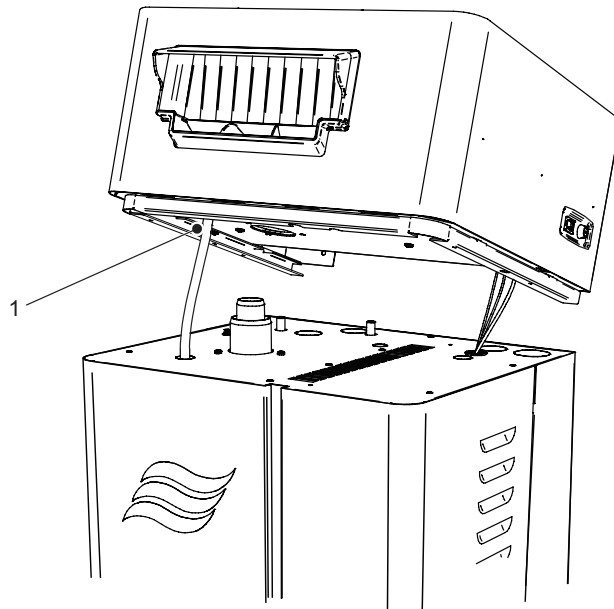

Figure 22: Condensate Hose Connection on Blower Pack
- e. Form a trap with a diameter of 150 mm in the 8/12 mm diameter condensate line, and prime it with water. Then route the other end of the condensate hose through the knockout hole in the top of the humidifier – refer to Figure 22 on page 38. Connect the hose to the blower pack condensate port and secure it with a spring clamp (supplied). Make sure that the hose is not kinked.